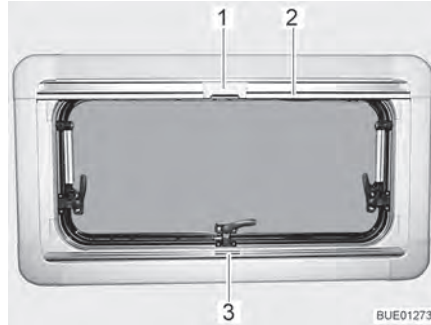
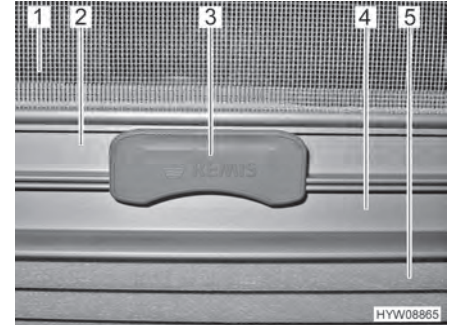

Fig. 41 Hinged window
Fig. 42 Catch
Roman shade The Roman shade (Fig. 42,5) is located in the lower blind box.
- Seize the Roman shade by the centre of the holding bar (Fig. 41,3 and Fig. 42,4), pull it from the bottom to the top and release it at the desired height. The Roman shade will stay at this height.
Insect screen The insect screen (Fig. 42,1) is located in the upper blind box.
- Pull the insect screen down by the holding bar (Fig. 41,2 and Fig. 42,2), until it touches the holding bar of the Roman shade (Fig. 42,4).
- Clip the catch (Fig. 41,1 and Fig. 42,3) on the insect screen into the holding bar of the Roman shade. When the catch is locked, the Roman shade and the insect screen can be adjusted together.
- Push the catch (Fig. 42,3) on the insect screen upward.
- Move the insect screen back slowly on the holding bar (Fig. 41,2).